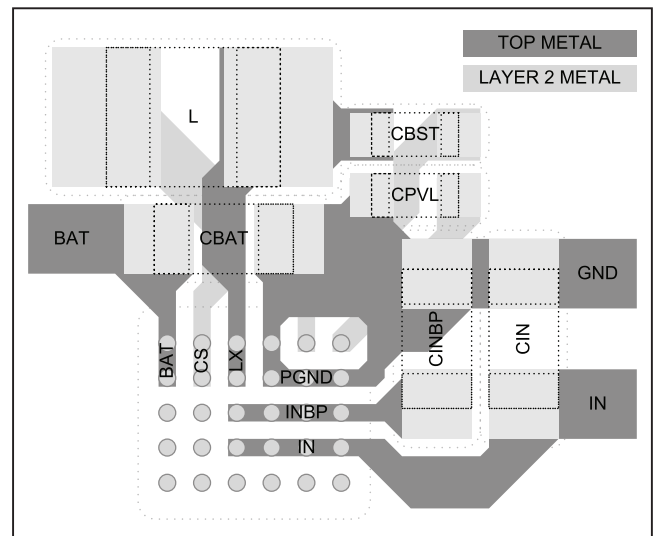
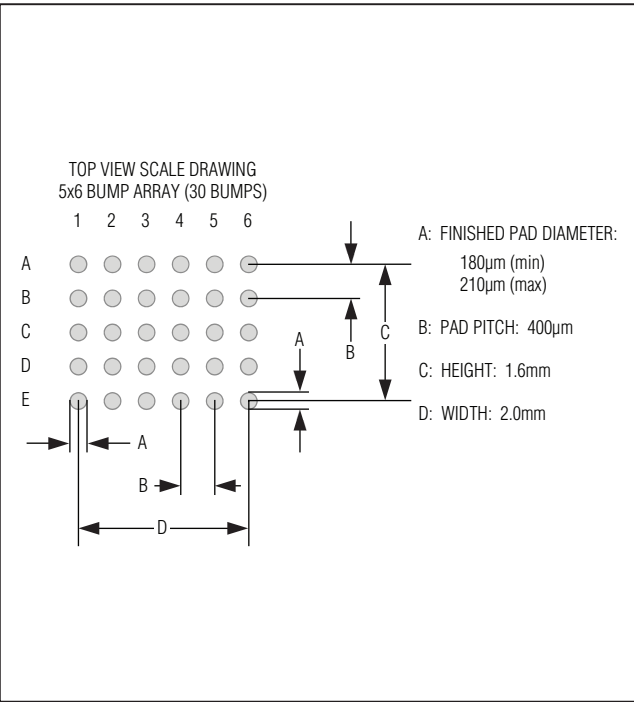
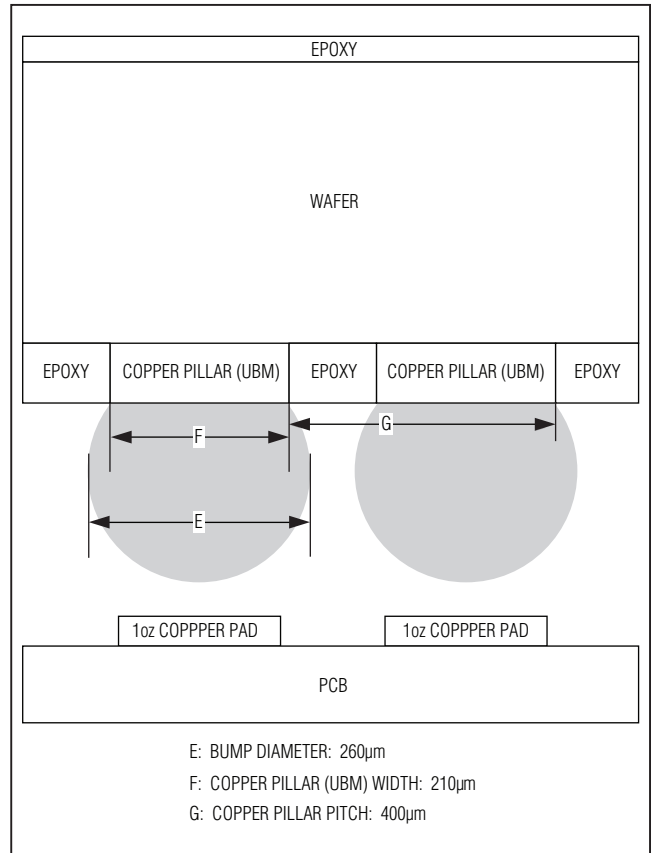

Figure 14. Power PCB Layout Example
Figure 15. Recommended Land Pattern
Figure 16. Bump Cross Section and Copper Pillar Detail
Figure 15 shows the recommended land pattern for the MAX8900\_. Figure 16 shows the cross section of the MAX8900\_'s bump with detail of the under-bump metal (UBM). The diameter of each pad in the land pattern is close to the diameter of the UBM. This land pattern to UBM relationship is important to get the proper reflow of each solder bump.
Careful printed circuit layout is important for minimizing ground bounce and noise. Figure 14 is an example layout of the critical power components for the MAX8900\_. The arrangement of the components that are not shown in Figure 14 is less critical. Refer to the MAX8900 Evaluation Kit for a complete PCB layout example. Use the following
- 5) In Figure 14, the CS node is connected to the second layer of metal with vias. Use low-impedance vias that are capable of handling 1.5A of current. Also, keep the routing inductor current path on layer 2 just underneath the inductor current path on layer 1 to minimize impedance.
- 6) Both CBST and CPVL deliver current pulses for the MAX8900\_'s MOSFET drivers. These components should be placed as shown in Figure 14 to minimize parasitic impedance.
In Figure 14, many of the top layer bump pads are connected together in top metal. When connecting bumps together with top layer metal, the solder mask must define the pads from 180 $\mu$ m to 210 $\mu$ m as shown in Figure 15. When using solder mask defined pads, please double check the solder mask openings on the PCB Gerber files before ordering boards as some PCB layout tools have configuration settings that automatically oversize solder mask openings. Also, explain in the PCB fabrication notes that the solder mask is not to be modified. Occasionally, optimization tools are used at the PCB fabrication house that modify solder masks. Layouts that do not use solder mask defined pads are possible. When using these layouts, adhere to the recommendations A through G above.